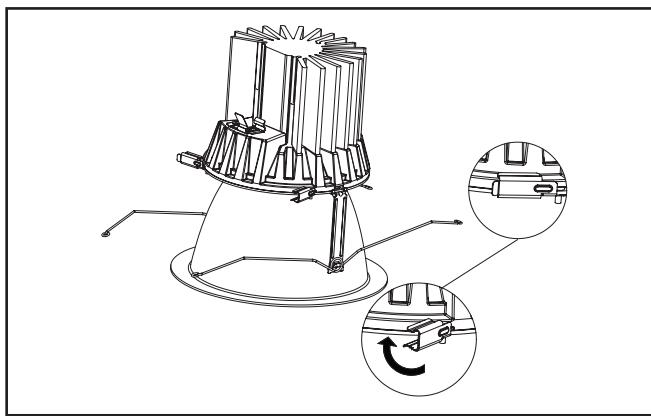

Figure 8
4. Rotate side clips (3) into place to securely attach trim assembly to LED engine. (Figure 8)